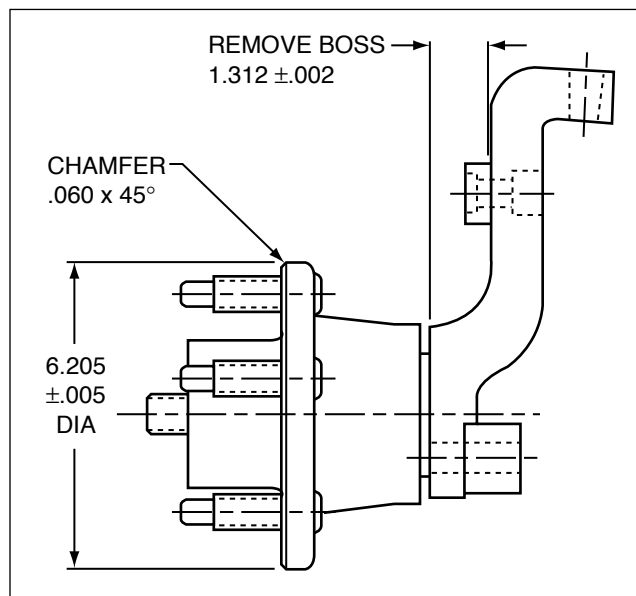

Figure 2. Spindle and Hub Modifications
•Before installation of the GT caliper onto a Stock Car Products spindle, the raised mounting boss on the upper portion of the spindle arm must be removed. Measuring from the machined face of the spindle, mill the boss down to 1.312 inches, ± 0.002 . Refer to figure 2, on the right.
•This GT kit uses a small diameter rotor mounting hat to accommodate the larger size friction pads of the GT caliper. To fit the GT hat to the Stock Car Products front hub, the outside diameter (O.D.) of the hub must be reduced. Reduce the O.D. of the hub to 6.205 inches, ± 0.005 . Chamfer the O.D. of the hub to 0.060 inch x 45 degrees. See figure 2, on the right.